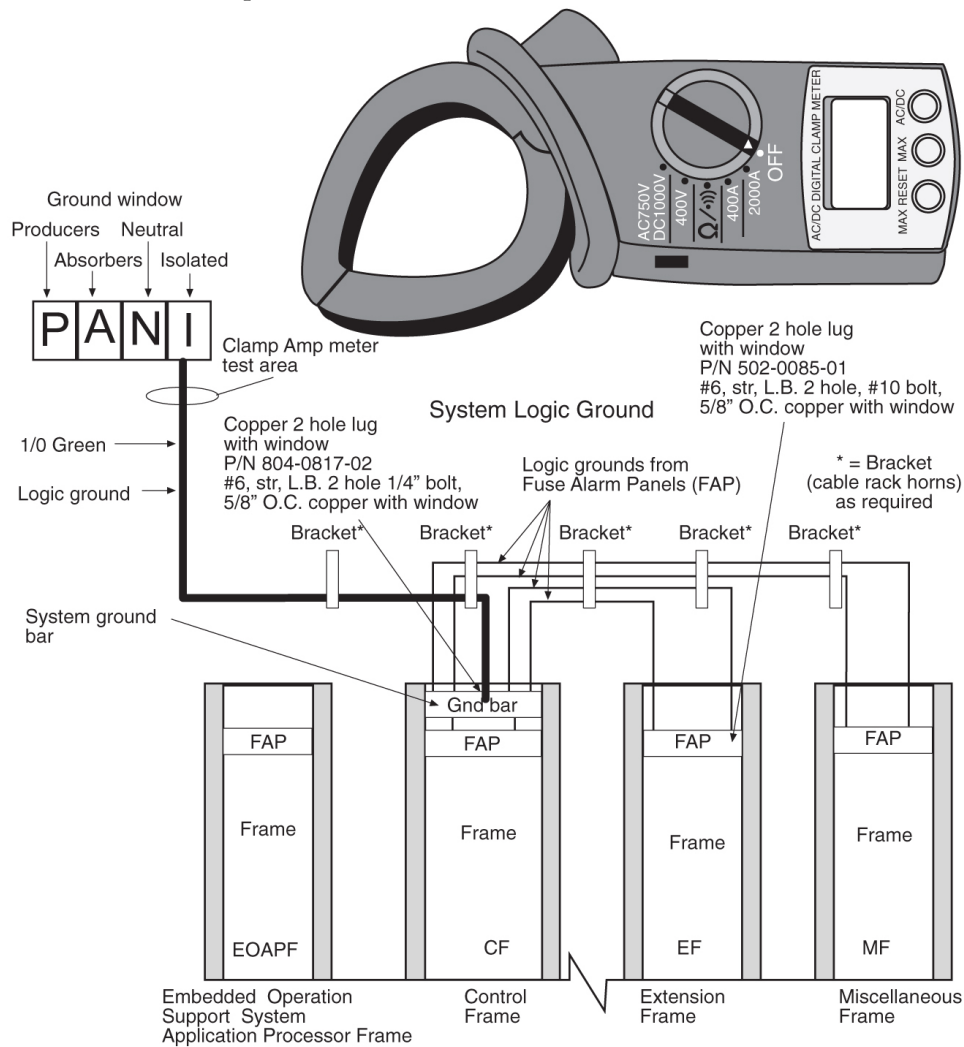

**Figure 53: System Logic Ground Bar and Cable**
6. Install the logic ground cable lugs P/N 804-0817-R02 using the 1/4-inch 20 copper-plated hardware provided (refer to Figure 53: System Logic Ground Bar and Cable).